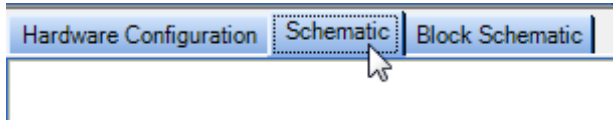

Figure 19. **Schematic** Tab
1. Click the **Schematic** tab near the top of the window (see Figure 19).